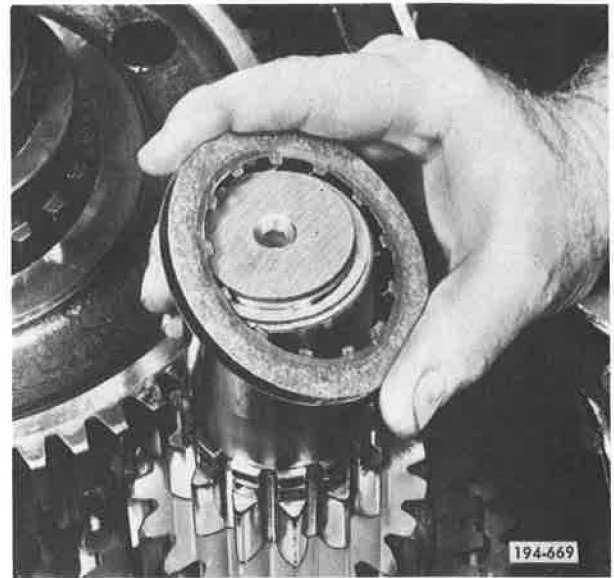

Figure 5-964. Installing Washers
25. Install front countershaft selective thrust washers on three countershafts. See **Figure 5-964**.